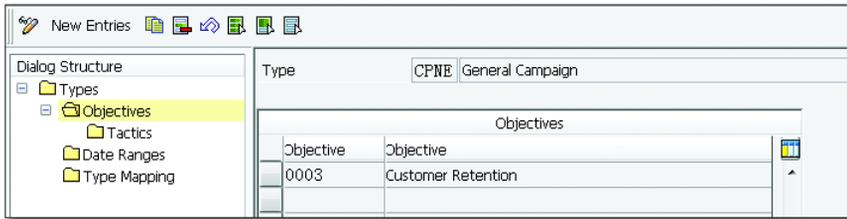

Figure 5.15 Campaign Objectives
3. In this step, we'll maintain the objective for the campaign type as shown in Figure 5.15. You can add the entries in the OBJECTIVES based on your business scenario. In this example, CUSTOMER RETENTION has been added as the OBJECTIVE. This can be useful for reporting purposes as well.